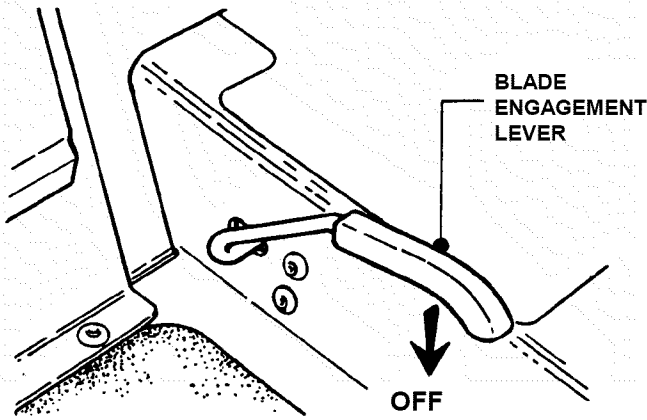

FIGURE 2.11
1. Stop mower blade by moving blade engagement lever down to the "OFF" position. See Figure 2.11.